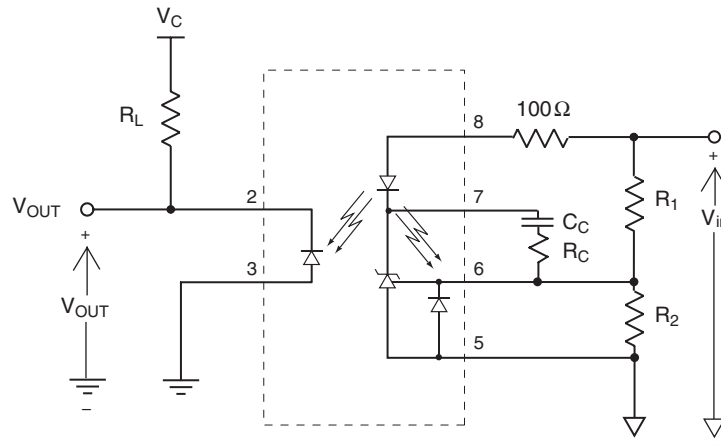

Fig. 6. Power Supply Feedback Application Circuit
2. The dynamic impedance is defined as $|Z_{OUT}| = \Delta V_{COMP}/\Delta I_{LED}$, for the application circuit in Figure 6, $|Z_{OUT}| \approx K_1 R_1$
Setting the gain for the LIA120 is accomplished simply by setting two resistors. The application circuit in Figure 6 shows a resistor divider feeding the FB pin, so the operating conditions for the gain are governed by: